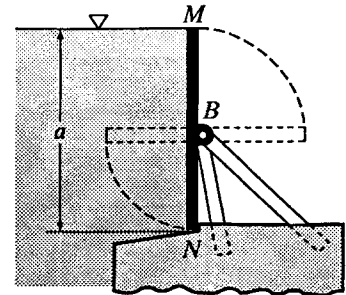

Figure X3.7.9
3.7.9 In Fig. X3.7.9 the rectangular flashboard MN shown in cross-section ($a = 5.4$ m) is pivoted at B. (a) What must be the maximum height of B above N if the flashboard is on the verge of tipping when the water surface rises to M? (b) If the flashboard is pivoted at the location determined in (a) and the water surface is 1 m below M, what are the reactions at B and N per m length of board perpendicular to the figure?